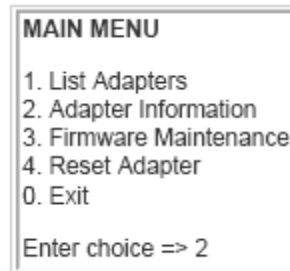

Figure 20: The Main Menu
1. Start lputil. The Main menu is displayed (Figure 20).